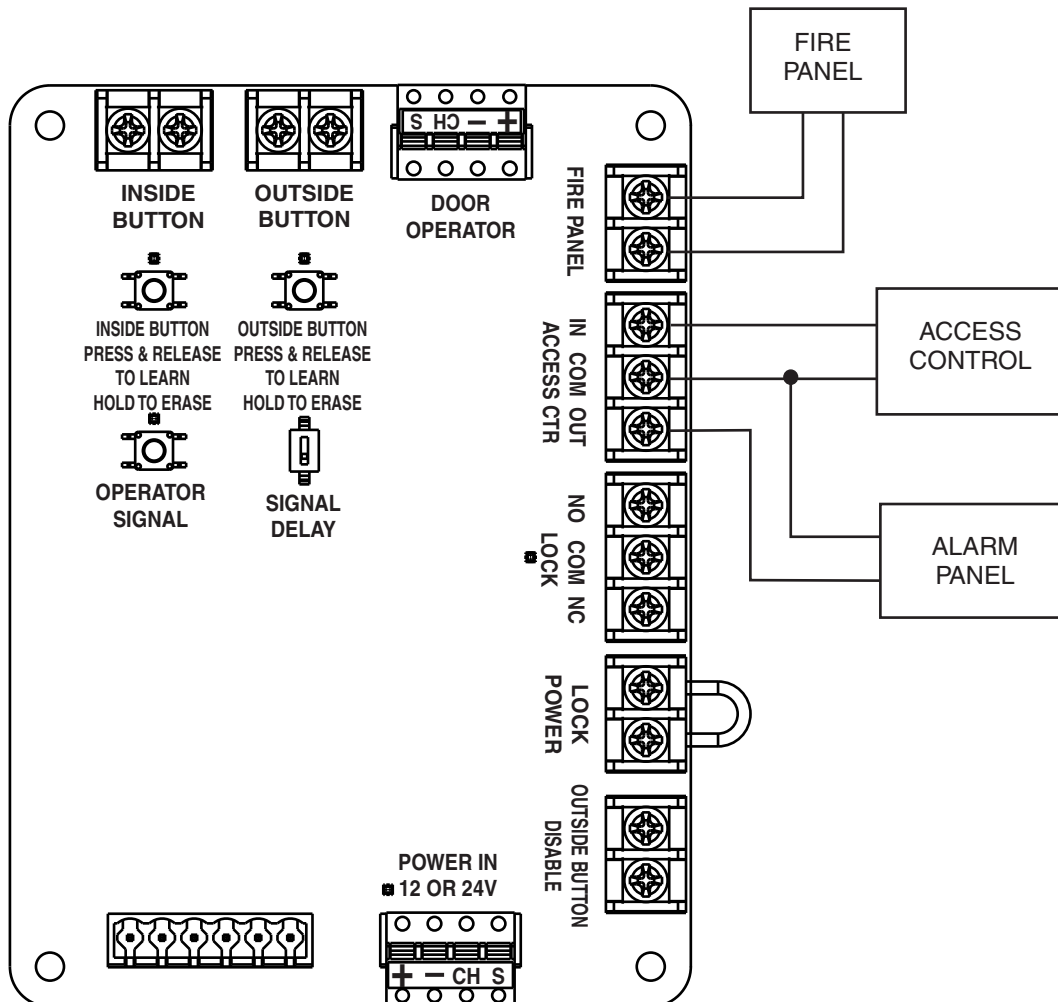

Figure 6
1. Refer to Figure 6 and connect the optional Access Control Input contact, Alarm Panel Output contact, or Fire Panel Input contact.
1. Refer to Figure 6 and Connect the OUTSIDE PUSHBUTTON DISABLE contact to the deadbolt monitoring switch.